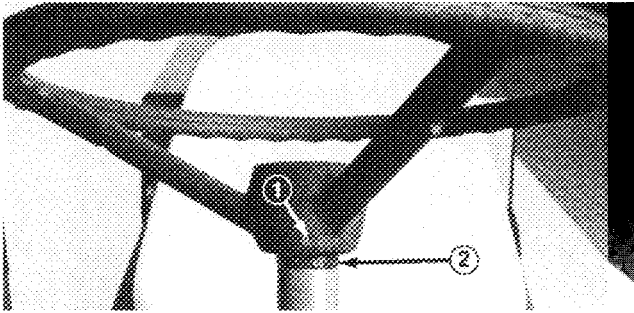

Figure 1
3. Secure steering wheel in place with roll pin (Fig. 1).